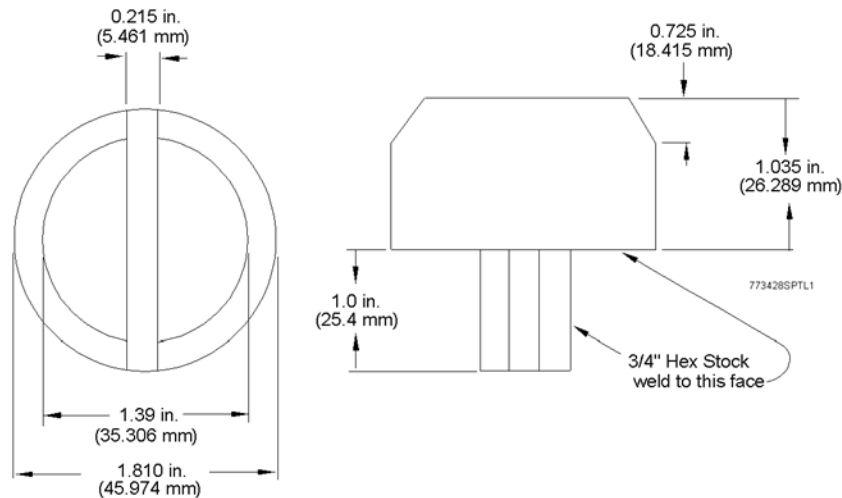
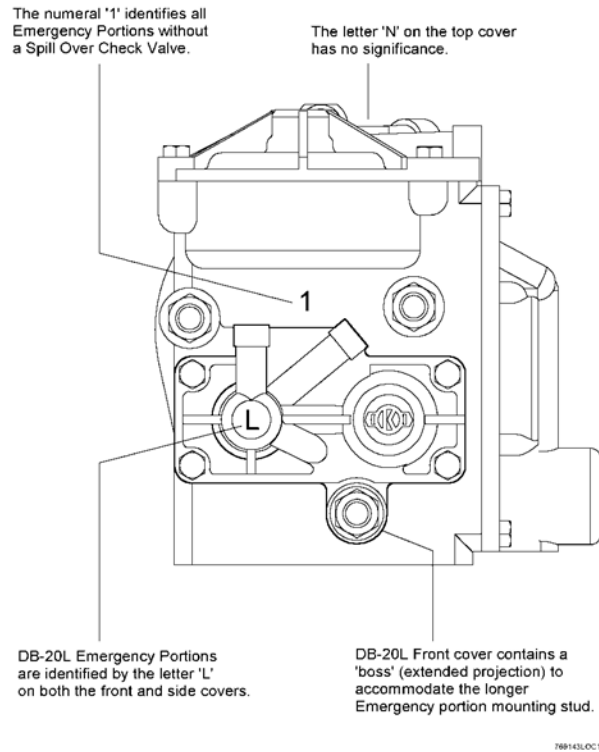
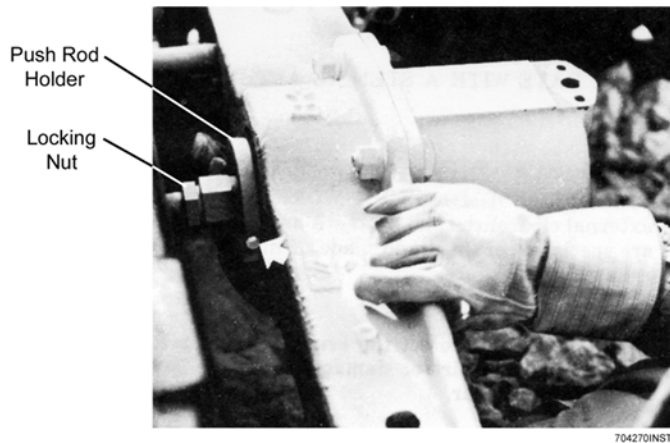

Figure 10: Emergency Portion Strainer Nut Wrench
Figure 11: Instructions for DB-20 and DB-20L Emergency Portion Identification
Figure 14: Push Rod Holder and Locking Nuts
- 5.2.11 For portions mounted on a single sided pipe bracket, install a new filter element into the pipe bracket located behind the emergency portion. A wooden mandrel will assist in guiding the filter into proper position. Make certain that the mandrel's inner end is engaged with the sealing bead (if inserted properly, all of the threads will be visible). Install the strainer nut and tighten it firmly using emergency portion strainer nut wrench (See Fig. 10).
- 5.2.14** Dependent on the car length, an appropriate type of emergency portion, DB-20 or DB-20L, (identification see Fig. 11) must be available. A different lower stud on the pipe bracket ensures the appropriate portion. If in doubt of proper valve configuration consult Rule #4 of the AAR Field Manual of Interchanged Rules.
5.4.1.7 Push on beam so that it ends up as close to the bolster as possible. Use two wrenches to loosen push rod locking nut (Fig. 14). Unscrew and remove push rod (15) (Fig. 11) and place it on bolster.
Brake Cylinder Assembly (11) is under compressive load and will tend to "spring" toward the axle. Examine push rod holder (Figure 10) to determine that it is securely in place before removing nuts (14) (Figure 11) to prevent personal injury.
5.4.1.9 Remove nuts (14) and lock washers (13) from bolts (12). Remove cylinder assembly (11) from beam (1). Remove and discard gasket (10) from beam (1).
- 5.4.1.19 Remove spacing blocks and install brake shoes (3) onto beam (1) (If new shoes are being mounted, use only 1-1/4" or 1-1/2" thick shoes). Insert brake shoe keys (4) to hold brake shoes (3) to beams (1). Tighten push rod locking nut securely (See Fig. 14). Replace strainer (5), and gasket (6) and reattach BC hose (7) with bolts (8 & 9) and torque grade 5 bolts to 55 +/- 5 ft-lbs dry torque.